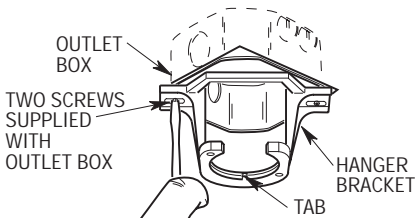
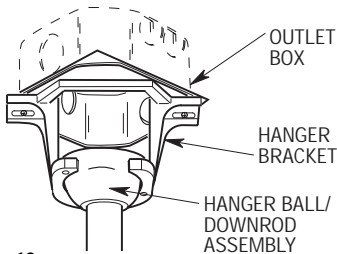

Figure 11
Figure 12
- 1. Securely attach the hanger bracket to the outlet box using the two screws supplied with the outlet box (Figure 11).
- 2. Carefully lift the fan and seat the hanger ball/downrod assembly on the hanger bracket that was just attached to the outlet box (Figure 12). Be sure the groove in the ball is lined up with the tab on the hanger bracket (Figure 11).